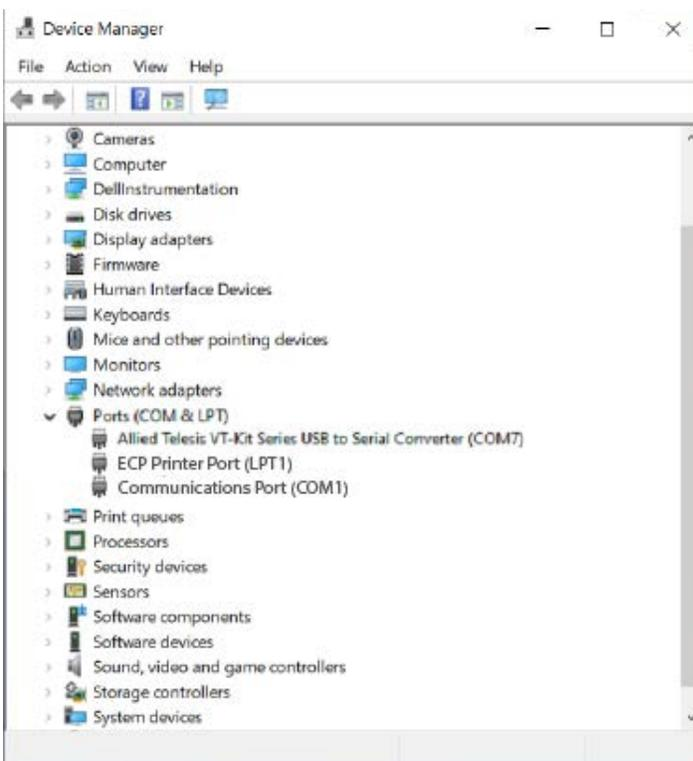

Figure 11. Device Manager
2. Open Device Manager in Control Panel. See Figure 11.